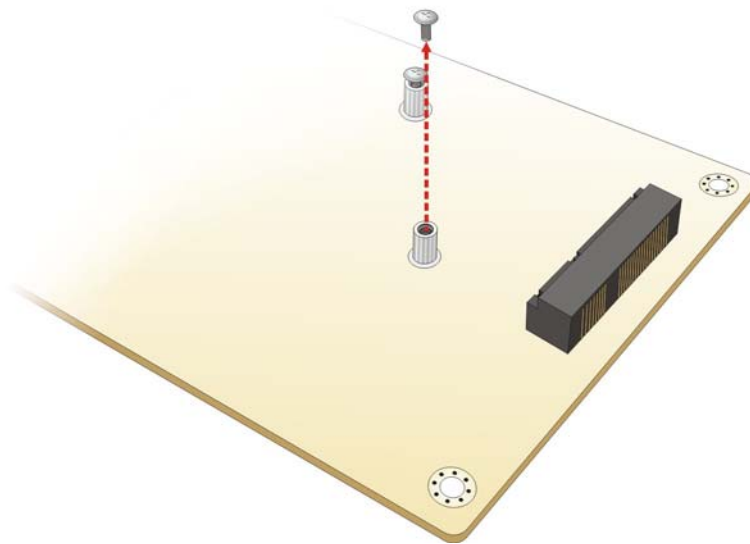

Figure 4-6: Removing the Retention Screw
Step 2: Remove the retention screw. Remove the retention screw as shown in Figure 4-6.